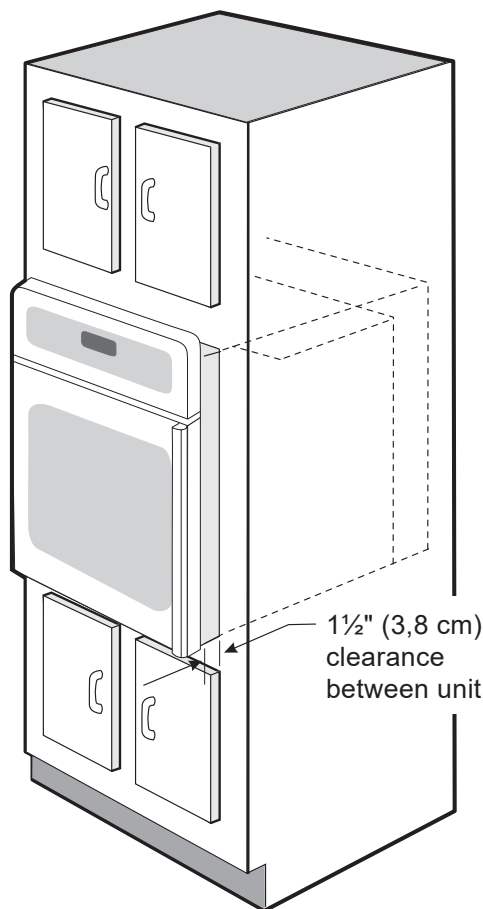

Figure 17
- 4 Insert the oven into the cabinet opening. Slide oven inward leaving 1½" (3,8 cm) clearance between the oven and front of cabinet (see Figure 17). Pull the armored cable through the hole for it in the cabinet and toward the junction box while moving the appliance inward.